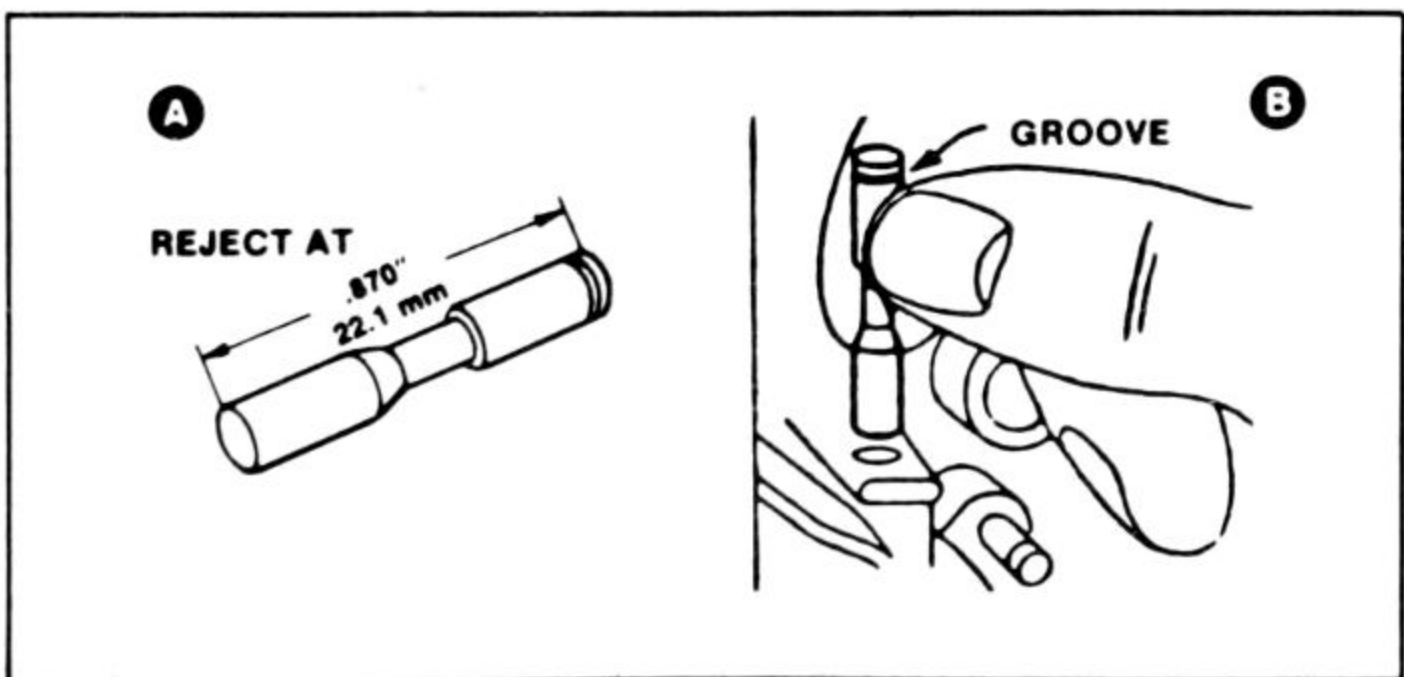

Fig. 2-26. Excessive plunger wear can affect point geometry (A). Install the plunger with the groove adjacent to the moveable point arm (B).
Step 6. Replace plunger if worn down to 0.870 of an inch or less (A of Fig. 2-26). Assemble with the grooved end toward the points (B of Fig. 2-26).